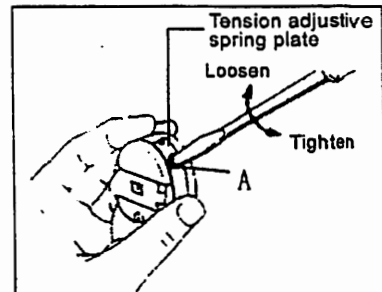

Fig.14
- 2) To adjust the lower thread tension by turning adjustive screw A in Fig.14.